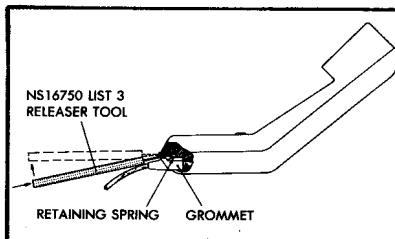

FIGURE 11. Removal of Handset Grommet
(1) Remove the card retainer and the number card located above the dial.
(2) Remove the handset grommet by holding the handset with the back or smooth section in the palm of the hand. Insert about 1/16-inch of the tip of the NS16750 List 3 releaser tool into the small slot adjacent to the grommet. (See Figure 11.) Press the handle of the tool towards the grommet and push the shank into the slot as far as it will go. Push the handle of the releaser tool away from the grommet to release the returning spring and gently ease the grommet out of the handset shell.
(3) Once the grommet has been withdrawn, two screws are exposed. Loosen these two screws by about 3/16-inch only, as it is not desirable or necessary to remove them.
(4) Free (do not remove) the captive screws in the cord retainer well. Loosen sufficiently to separate the handset sections at the receiver end; then slide the smooth or back half of the handset housing towards the cord grommet to release this section from the slotted screw holes at the grommet.